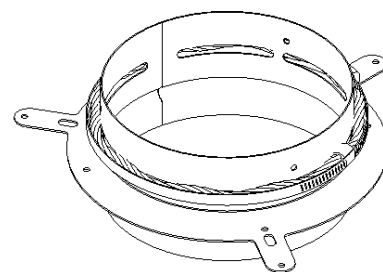

Figure 3-7: 6CON Liner Connector
The Elegance 30 fireplace can be connected to a masonry chimney that complies with current national and municipal building codes. A 6 inch chimney liner that complies with ULC S635 M2000 (Canada) or UL 1777 (US) standards must be installed within the existing masonry chimney. Note that the 6CON connector (manufactured by SUPREME FIREPLACES INC.) must be installed to connect the prefabricated chimney to the liner (6CON sold separately). Refer to Figure 3-7 and Figure 3-8.